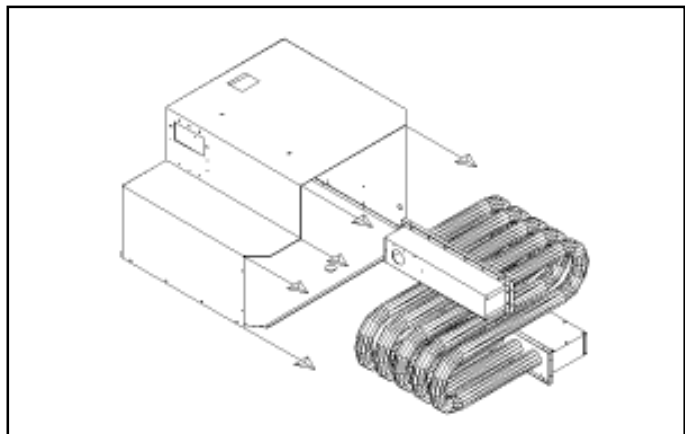

FIGURE 20
- L.) Pull combustion tube assembly forward and out of the liner. (See Figure 20).